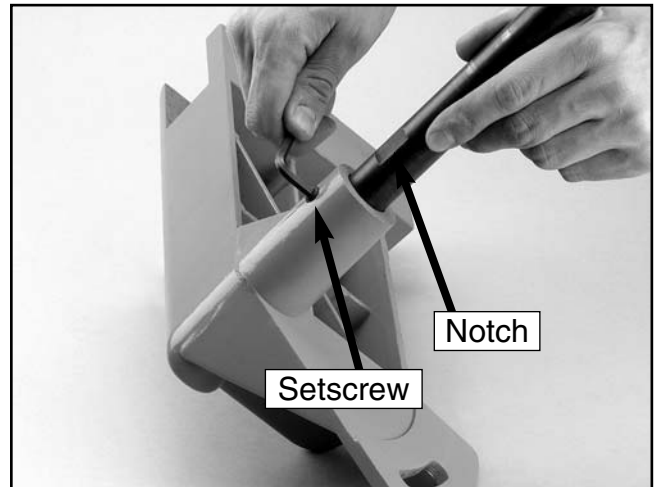

Figure 8. Attaching the pivot shaft to the riser block.
5. Slide the pivot shaft into the riser block as shown in **Figure 8**. Be sure the notched end of the pivot shaft is positioned correctly.
6. Secure the assembly with a M10-1.5 x 10 setscrew as shown in **Figure 8**.